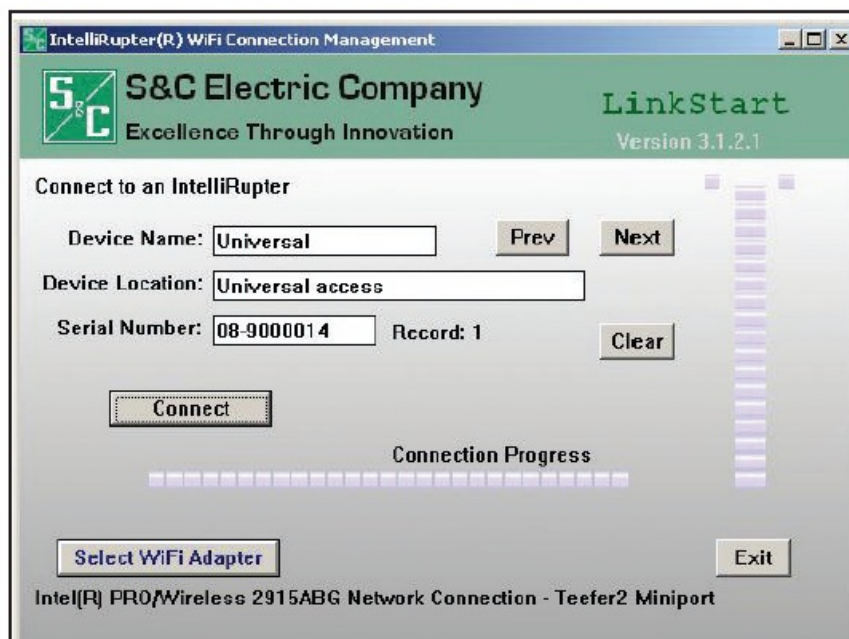

Figure 3. Screen showing the Wi-Fi connection in progress.
- **STEP 2.** Click on the Connect button. The Wi-Fi connection process will begin. See Figure 3.